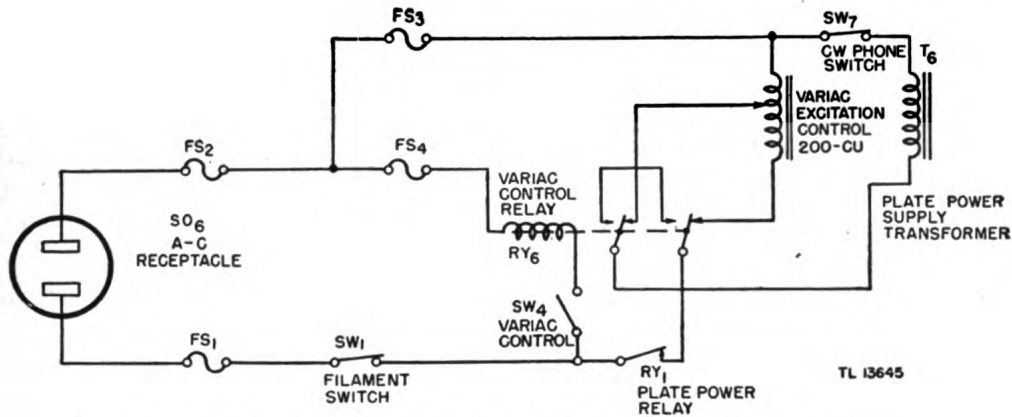

Figure 29. Radio Transmitter T-62()/MRC-1—variac control circuit.
b. **HIGH-VOLTAGE CONTROL** (fig. 29). To control the output of Radio Transmitter T-62()/MRC-1 to provide the correct excitation to the power amplifier, a VARIAC has been placed in the primary circuit of plate supply transformer T₆. This variac is used when tuning and on high-power c-w operation *only*. On voice or low-power c-w operation, the VARIAC is removed from the circuit by placing the VARIAC CONTROL switch in NORMAL position. This switch controls relay RY₆, which, when energized, connects the primary of T₆ directly to the a-c power source without passing through the VARIAC.